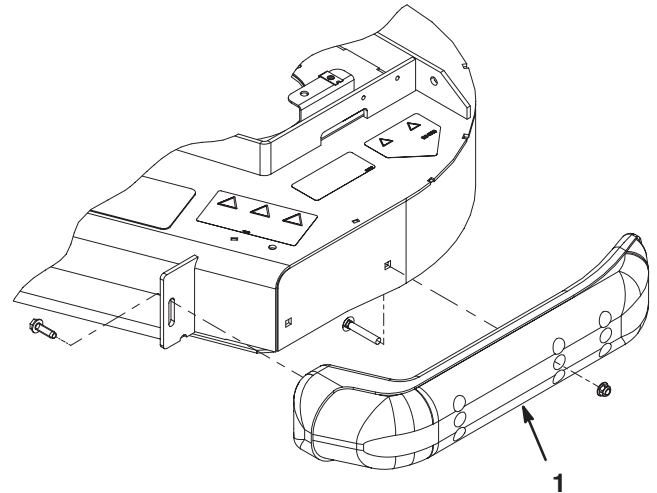

Figure 2
- A. Loosely mount the side of the skid to the cutting unit with (2) 3/8 x 2-1/4 inch carriage screws and flange nuts (Fig. 2 and 3).
- B. Loosely mount the front of the skid to the cutting unit with a 3/8 x 1-1/4 inch screw (Fig. 2 and 3).